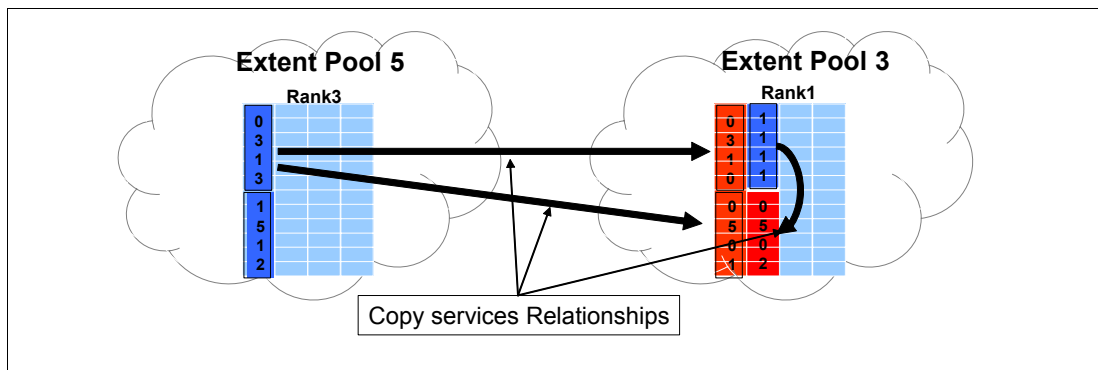

Figure 9-6 Example of Copy Services relationship between LSSs in the same storage unit
- ▶ Multiple volumes in one extent pool or one rank can be in the same or different LSSs, as shown in Figure 9-6 on page 160.
- ▶ Multiple volumes in different extent pools and on different ranks can be in the same LSS, as shown in Figure 9-6.
- One extent pool can contain volumes/LUNs that are in different LSSs, as shown in Figure 9-6.
- LSSs can have a many to many Copy Services relationship as shown by the arrows in Figure 9-6,